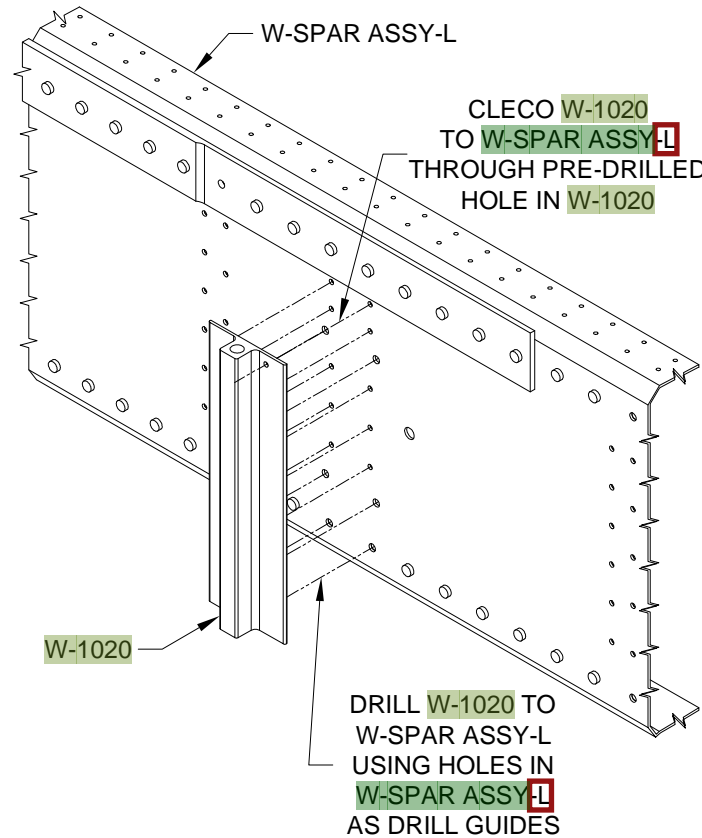

FIGURE 3:
Step 7: Cleco the W-1020 Tie-Down Bracket to the W-SPAR ASSY-L Spar Assembly - Left as shown in Figure 3. The upper edge of the tie-down bracket rests against the bottom surface of the upper spar step-bar. Using a #30 bit, match-drill holes in the tie-down bracket using the pre-punched #30 holes in the spar assembly as drill guides. Insert clecos in the holes as they are drilled. Using a #12 bit, match-drill holes in the tie-down bracket using the pre-punched 3/16 holes in the spar assembly as drill guides. See Figure 3.